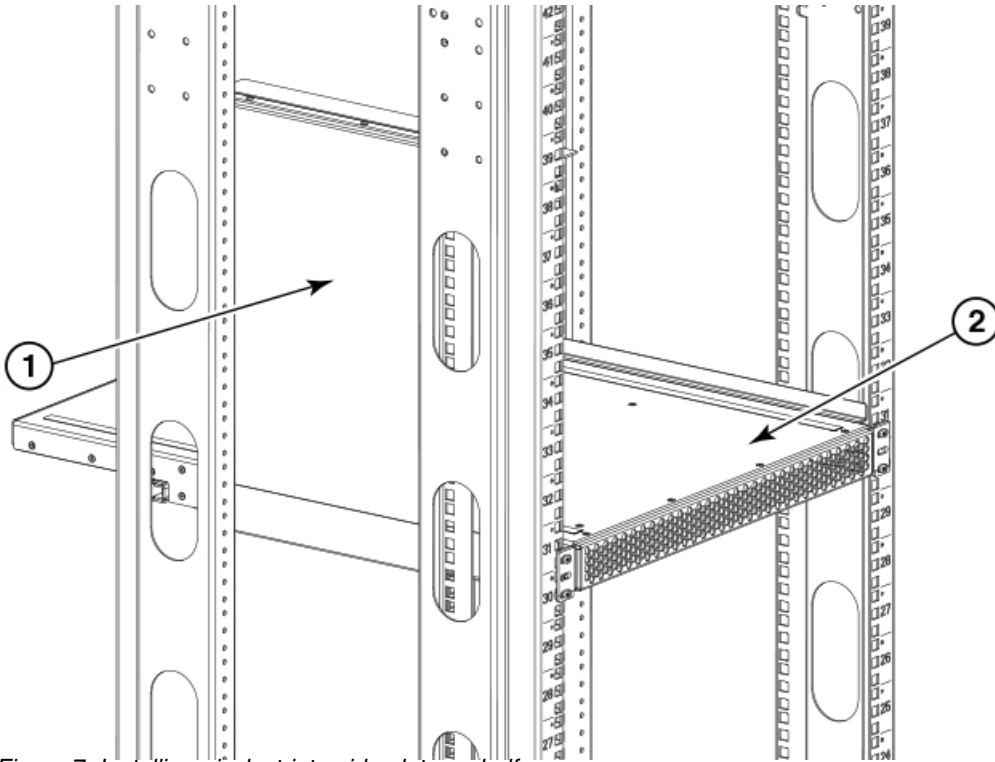
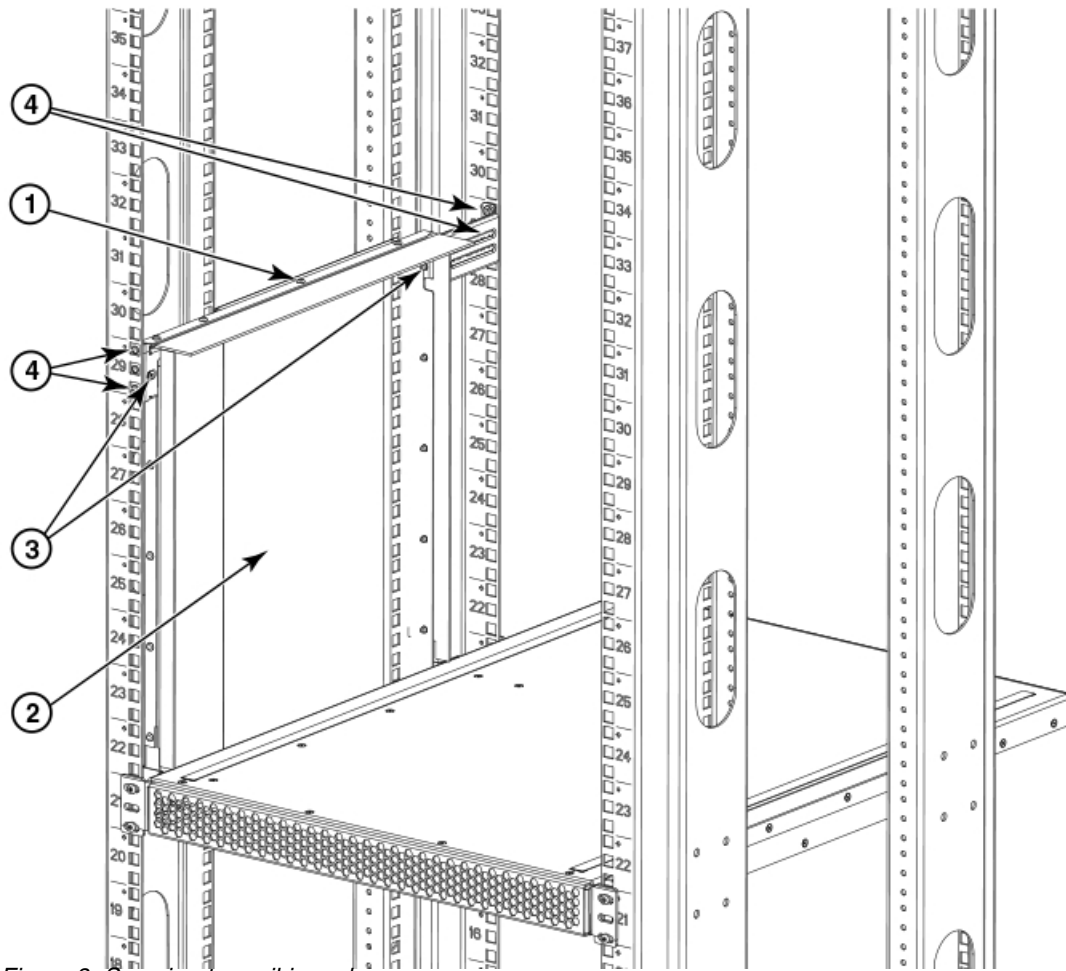

Figure 7. Installing air duct into side slot on shelf
Figure 8. Securing top rail in rack
2. Install clip nuts (8 in Figure 7) or retainer nuts (9 in Figure 7) in rack rail locations shown in the following figure. These nuts will secure the 10-32 screws that mount the rack kit's shelf and the device to the rack. For rails with round holes, use clip nuts. For rails with square holes, use retainer nuts. Note that the following figure shows relative positions for these nuts in the rack rails to mount the shelf and device. You may mount the shelf and device in 9U of rack space higher or lower in the rack than shown.
3. Install the shelf saddle (refer to Figure 7) to the nonport side of the rack. Install the saddle in the same vertical location as where the shelf installs on the port side of the rack. In using the previous figure as example, if the shelf is installed in location 23 on the port side, install the saddle in location 23 on the nonport side. Ensure that the words "THIS SIDE UP" on the saddle face towards the port side of the rack (see the following figure).
Secure the saddle to the rack using four 10-32 screws with washers (refer to Figure 7), two screws on each side of the saddle. Tighten the screws according to specifications under "Torque requirements" on page 23.
Note: For rails with round holes, use the clip nuts (refer to Figure 7) on the rails for securing 10-32 screws. For rails with square holes, use the retainer nuts (see Figure 7). Also refer to Figure 8.
4. Place the shelf (refer to the following figure) on the saddle then secure it to the rack rails using four 10-32 screws with washers (refer to Figure 7). Tighten the screws according to specifications under "Torque requirements" on page 23.
- a. Determine the size of the top rail inner bracket that you will need to install on the top rail so that the top rail will fit on the inside of the rack rails. Remove the appropriate bracket from the accessory kit. Note that the accessory kit contains three sizes, depending the depth of your equipment rack (refer to Figure 7).
- b. Secure the top rail inner bracket to the top rail assembly with two 6-32 screws (see Figure 7). Tighten the screws according to specifications under "Torque requirements" on page 23.
For rails with round holes, use two 10-32 screws with washers (refer to Figure 7) on each end of the top rail assembly. Tighten the screws according to specifications under "Torque requirements" on page 23.
For rails with square holes, use the two standard 10-32 screws with blue Loctite on the threads and alignment washers (refer to Figure 7) on each end of the top rail assembly. Tighten the screws according to specifications under "Torque requirements" on page 23.
Note: For rails with round holes, use the clip nuts on the front rails for securing 10-32 screws. For rails with square holes, use the retainer nuts (refer to Figure 7). Also refer to Figure 8.